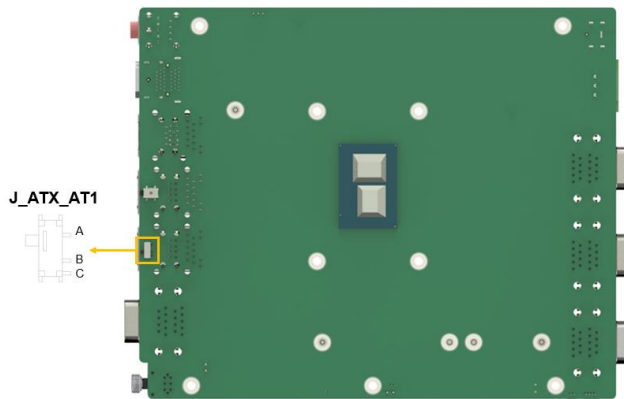

Figure 4-3: AT/ATX Power Mode Switch Locations
- CN Location:** See **Figure 4-3**